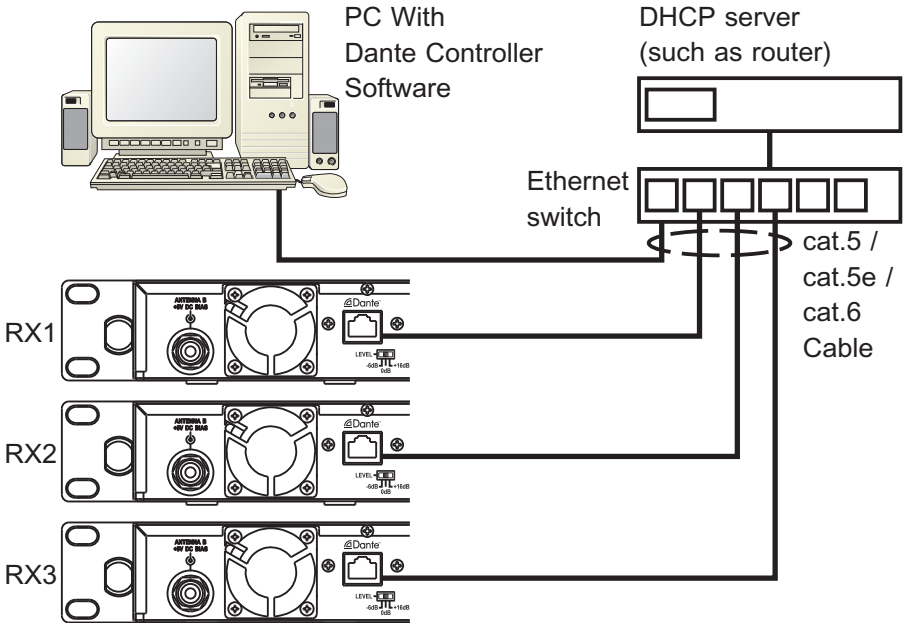

Fig. 22
(A) Dante network, Fig. 22:
(B) Connect MIPRO ACT-72/74 via Dante RJ45 port by Cat. 5, Cat. 5e, or Cat. 6 cable with Ethernet switch to construct Dante network, as shown in Fig. 22.